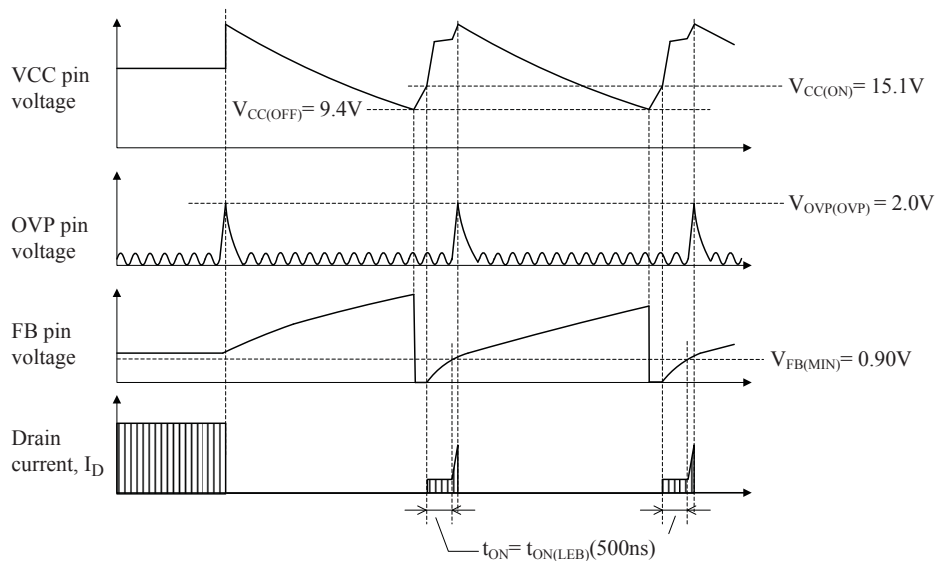

Figure 39. Waveforms when OVP pin OVP is being activated (LC552xD and LC552xF)
- OVP pin Overvoltage Protection. Figure 39 shows the OVP pin OVP function. When the OVP pin voltage with reference to the S/GND pin reaches and exceeds $V_{OVP(OVP)} = 2.0\text{ V}$, OVP is activated.